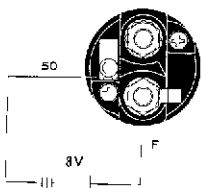

Fig 8.12 Pull-in Coil Test G0721
1. Test the pull-in coil motion of the magnetic switch. Connect the test lead as illustrated in figure 8-12. The magnetic switch should pull in the plunger strongly with 8 volts.